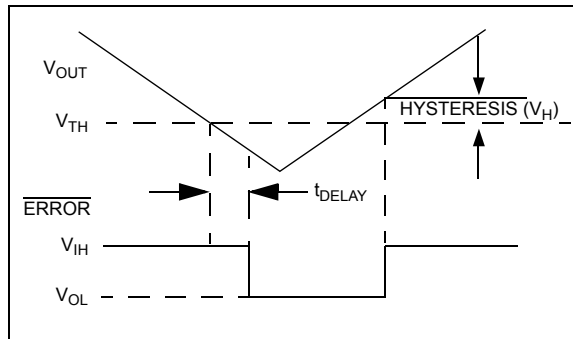

FIGURE 4-2: Error Output Operation.
$\overline{ERROR}$  is driven low whenever  $V_{OUT}$  falls out of regulation by more than  $-5\%$  (typical). This condition may be caused by low input voltage, output current limiting, or thermal limiting. The  $\overline{ERROR}$  output voltage value (e.g.  $\overline{ERROR} = V_{OL}$  at 4.75V (typical) for a 5.0V regulator and 2.85V (typical) for a 3.0V regulator).  $\overline{ERROR}$  output operation is shown in Figure 4-2.
- Changed Figure 4-2.